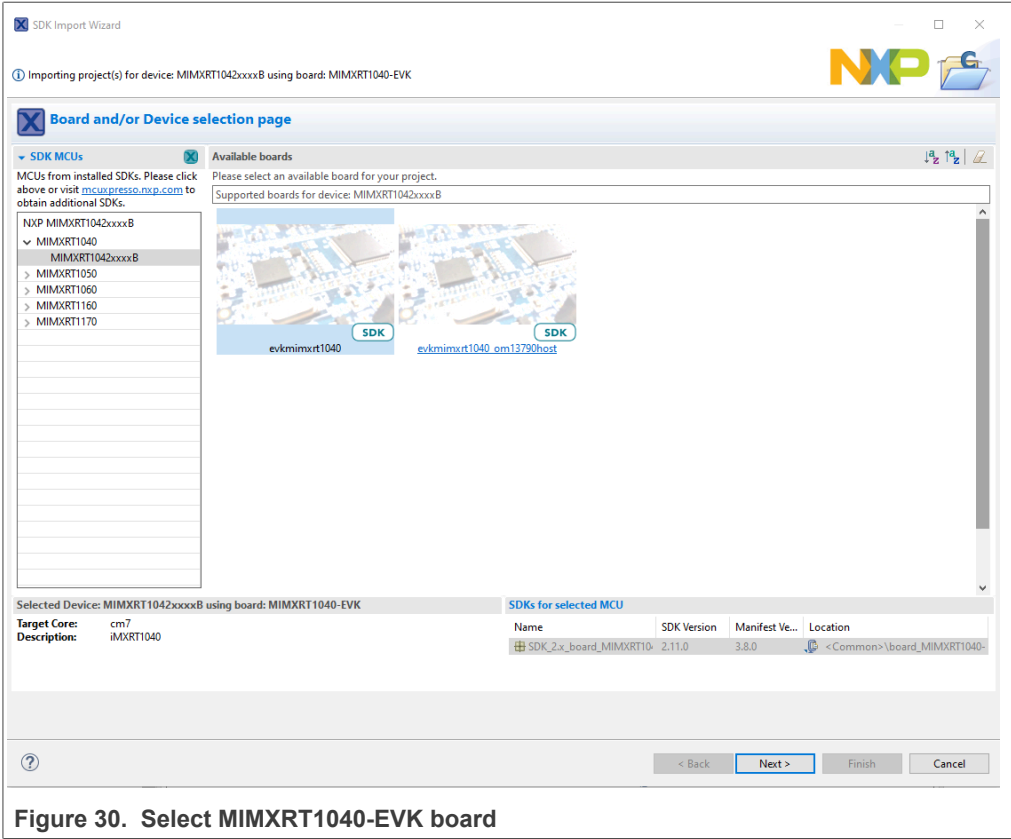

Figure 30. Select MIMXRT1040-EVK board
3. In the window that appears, expand the **MIMXRT1040** folder and select **MIMXRT1042xxxxx**. Then, select **evkmimxrt1040** and click **Next**, as shown in Figure 30.